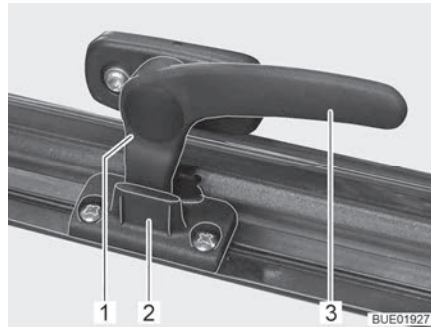

Fig. 31 Catch lever in "continuous ventilation" position
- "Continuous ventilation" (Fig. 31)
- Turn the catch lever (Fig. 31,3) a quarter turn towards the centre of the window.
- Turn the catch lever a quarter turn towards the window frame. The locking catch (Fig. 31,1) has to be moved into the recess of window catch (Fig. 31,2).